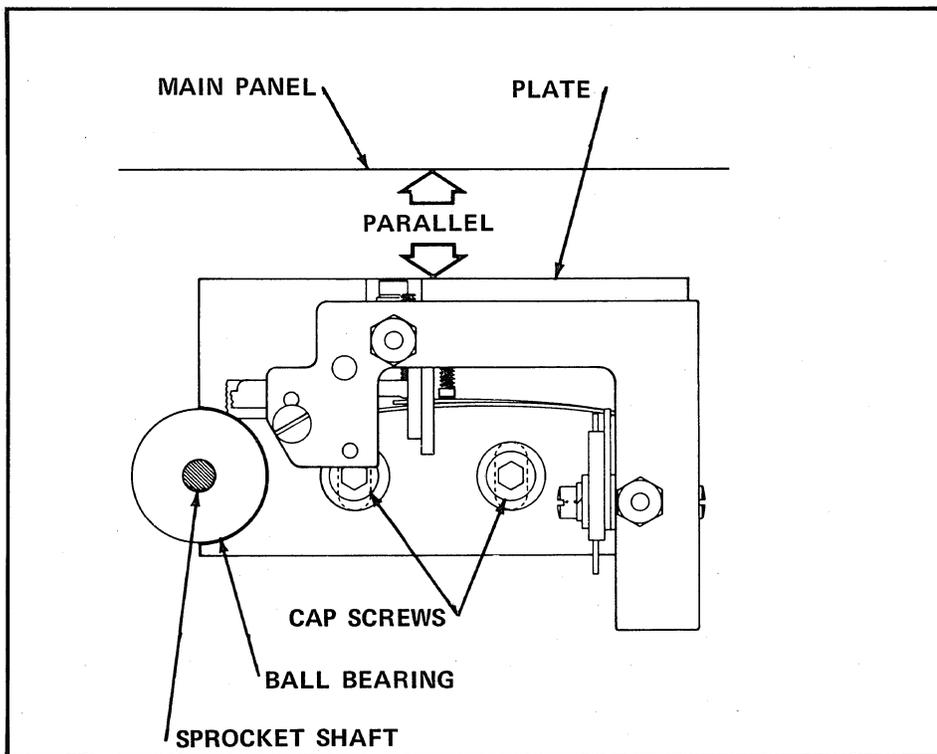

Figure 6-1 Starwheel Sensing Head Adjustment
- (1) To check or adjust the sensing head, remove knob and cover using 0.050" hex driver and 5/64" hex driver (see Table 7-1).
- (2) Position the starwheel sensing head so that the upper edge of the plate is visually parallel to the upper edge of the main panel. See Figure 6-1.